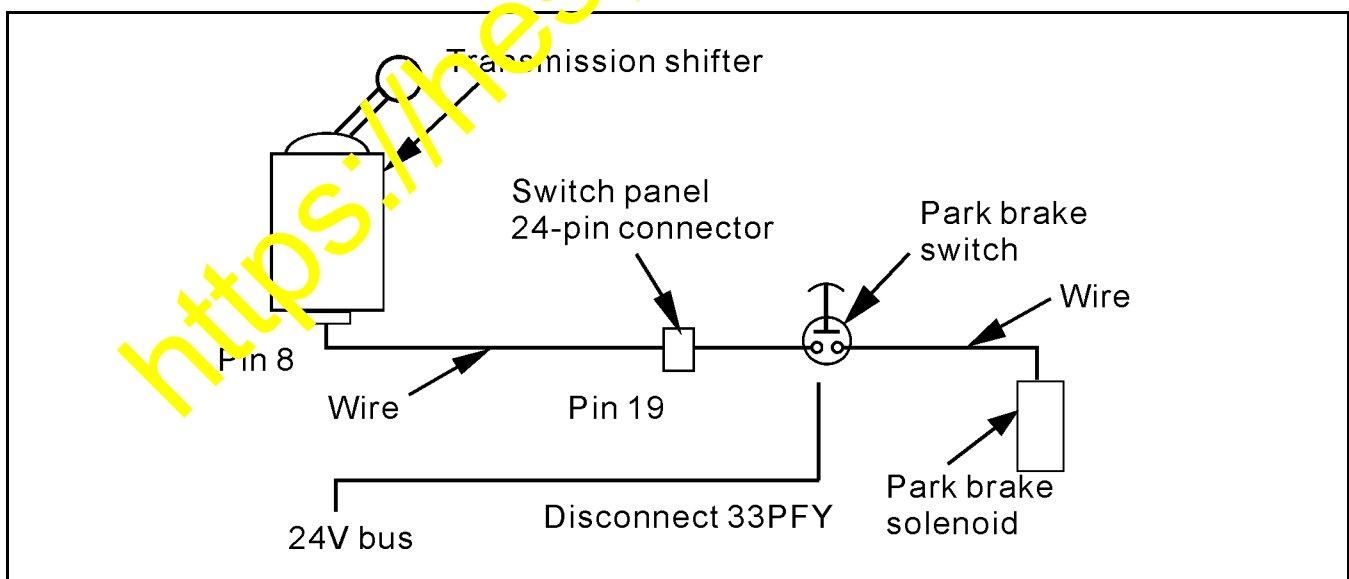

Figure 4. Circuit diagram
12. Attach the other end of the wire (1439 943 H1) to the hot side of the parking brake switch. Figure 4 shows orientation of wire on this switch.
16. Figure 4 is a circuit diagram of the system after the rework.